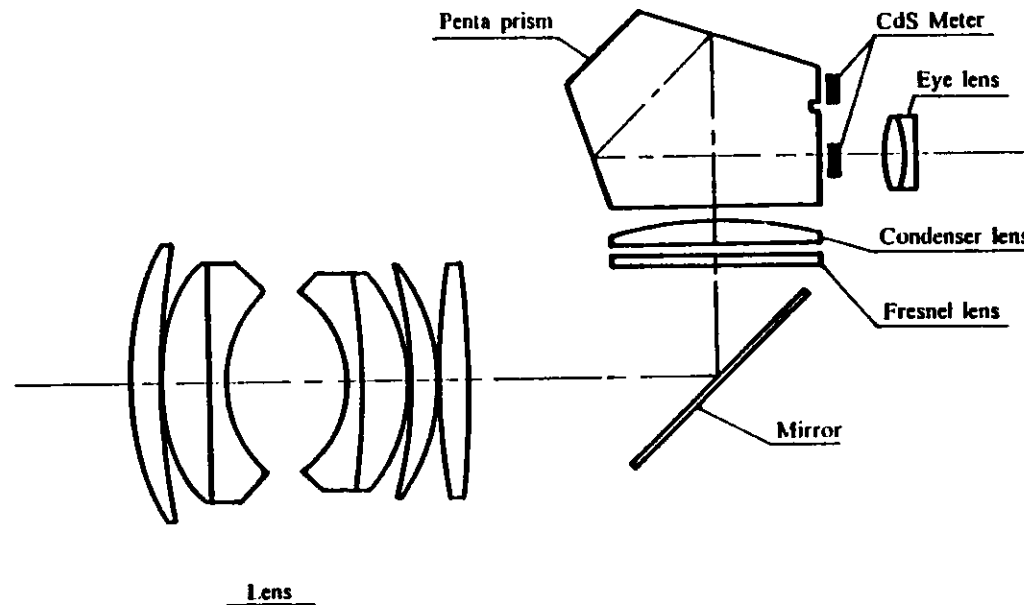

Fig. 12
3. Light measuring mechanism (Fig. 12)